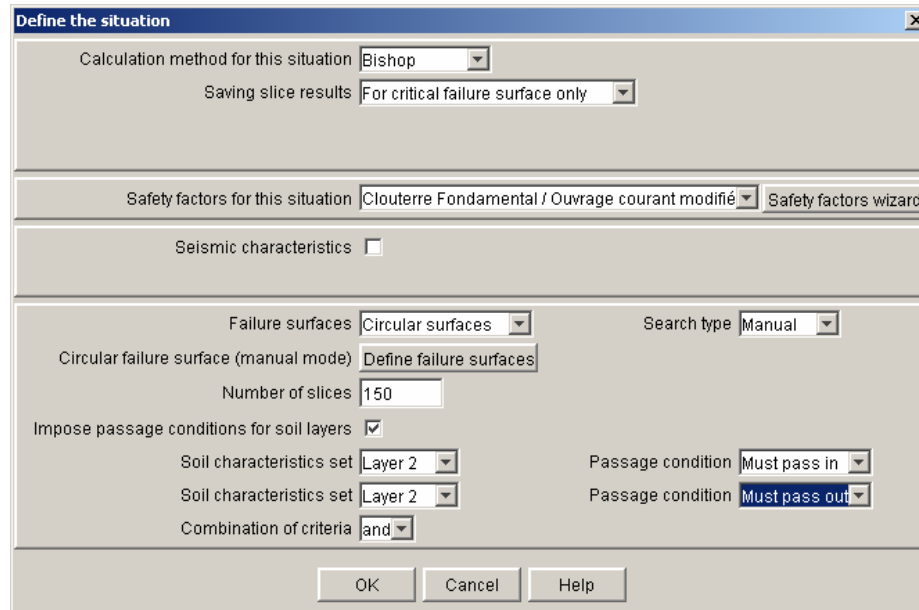

Figure 104: conditions dialog box: impose passage conditions
- Data requested for all types of failure surfaces (Figure 104)
- *Impose passage conditions for soil layers*: this checkbox enables to define passage conditions (it is not compulsory). New data are then requested (Figure 104):